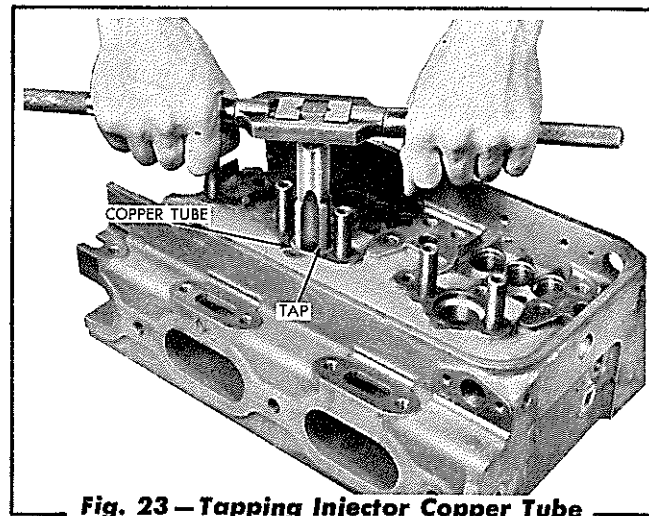

Fig. 23 — Tapping Injector Copper Tube
4. Support the cylinder head, top side up, on blocks and screw the tap down into the upper end of the copper tube as shown in Fig. 23. Remove the tap.